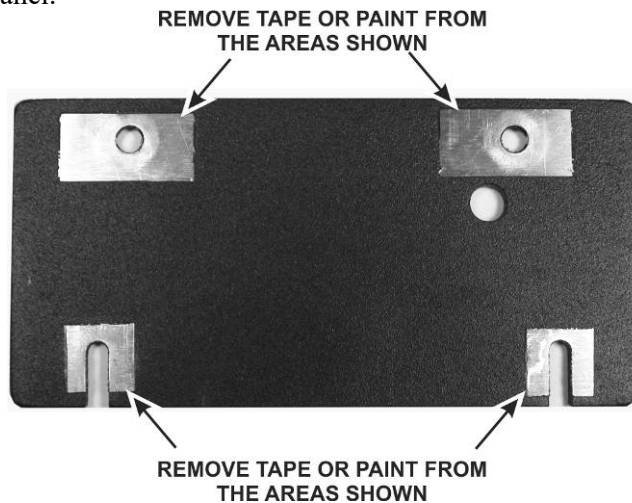

Figure 40. Preparing the Right Side Panel for Mounting.
□ Position the left side panel on the front panel assembly and install the two knurled nuts as shown in Figure 40. The knurled nuts must be installed first to ensure the nuts fit properly into recessed openings and contact the bare metal. Note that the knurled nuts have slots on the side facing away from the panel. You can tighten the nuts with a small screwdriver or other tool pressed gently in the slot. Take care to avoid scratching the paint.
- Unwrap the right side panel and clean it as needed (see Figure 40). The paint is **not** removed from any areas on the outside of this panel.